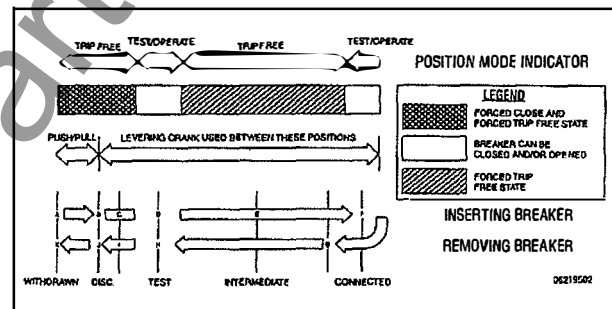

Figure 5-3 Cell Position Description (Front and Rear Racking)
5.14 CELL POSITION DESCRIPTION - Front Racking (See Figure 5-3)